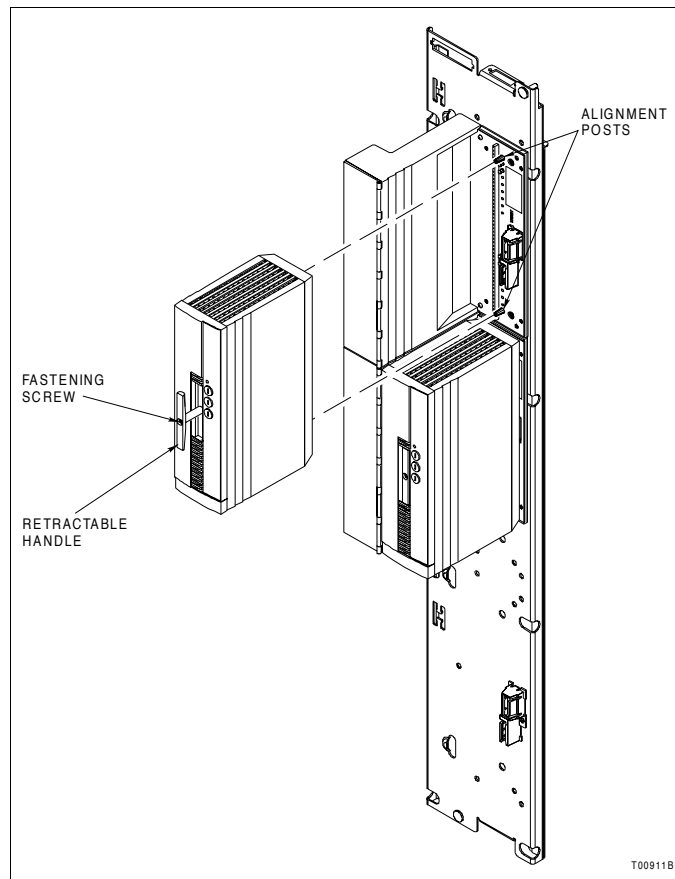

Figure PR3-1. I/O Module Attachment
- ☐ 2. Grasp the retractable handle when inserting the I/O module. Insure the handle is extended completely so that the fastening screw does not stick out from the back of the module (Fig. PR3-1).